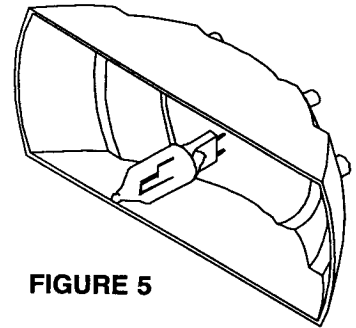

FIGURE 5
3. Remove the three (3) screws from the end cap with the cable exit.
6. When reinstalling, note the orientation of the lamp filament as shown in Figure 5. Incorrect installation could result in premature failure or intermittent operation.